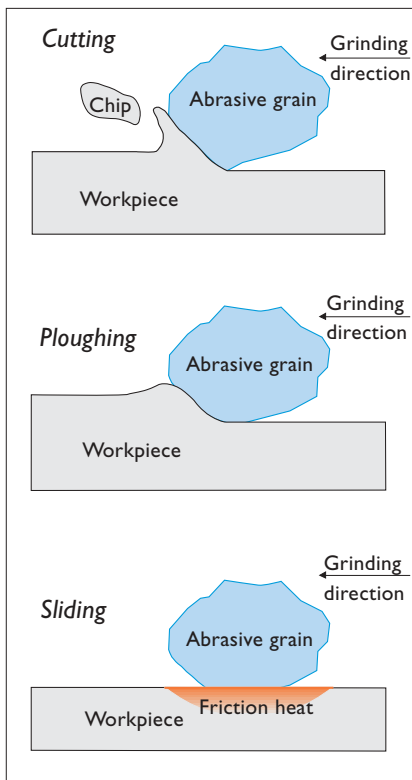

Figure 2. Different conditions during grinding (highly schematic). Cutting angles are generally negative.
- The cutting tool has an irregular cutting geometry and the abrasive grains are irregularly placed, which means that cutting, ploughing and sliding will occur, see figure 2.